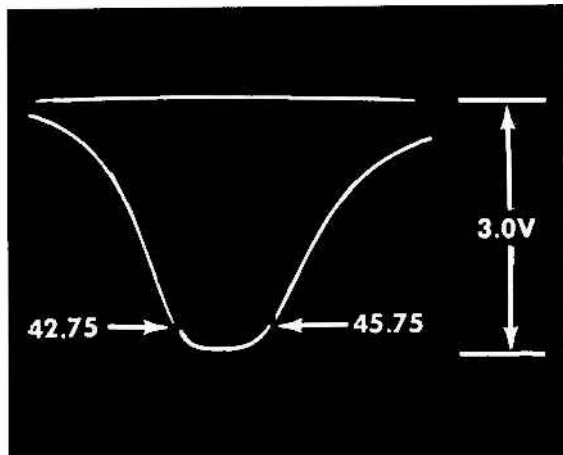

Fig. 10 4th IF Response
4. Set the marker generator to 45.75 Mc and alternately adjust the top and bottom cores of the 4th IF for maximum gain and symmetry with the 45.75 Mc and the 42.75 Mc markers positioned as shown in Fig. 10. If the correct response cannot be obtained, check the position of the cores to see that they are not butted but are entering their respective windings from the opposite ends of the coils.